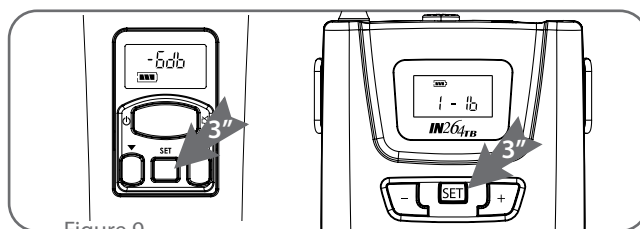

Figure 9
- (1) Press "Set" button ②① ②⑨ button for 3 seconds, the group (G) will flash. (Figure 9)
- (2) Press "▲Up" ②② ③① or "▼Down" ②③ ③② button to select a desired group.
- (3) Press "Set" again and the Channel (CH) will flash.
- (4) Press "▲Up" or "▼Down" button to select a desired channel.
- (5) After setting, press "Set" again to save the setting.